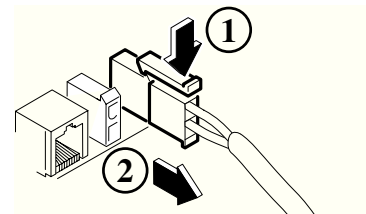

Fig. 8 – Disconnecting the cable
- ▶ Disconnect the actuator cable in the direction of the arrow (see Fig. 8).